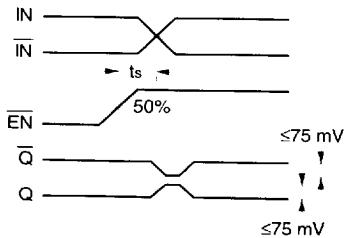

Figure 1. Set-up Time
5. The set-up time is the minimum time that EN must be asserted prior to the next transition of IN/IN to prevent an output response greater than $\pm 75mV$ to that IN/IN transition (see Figure 1).